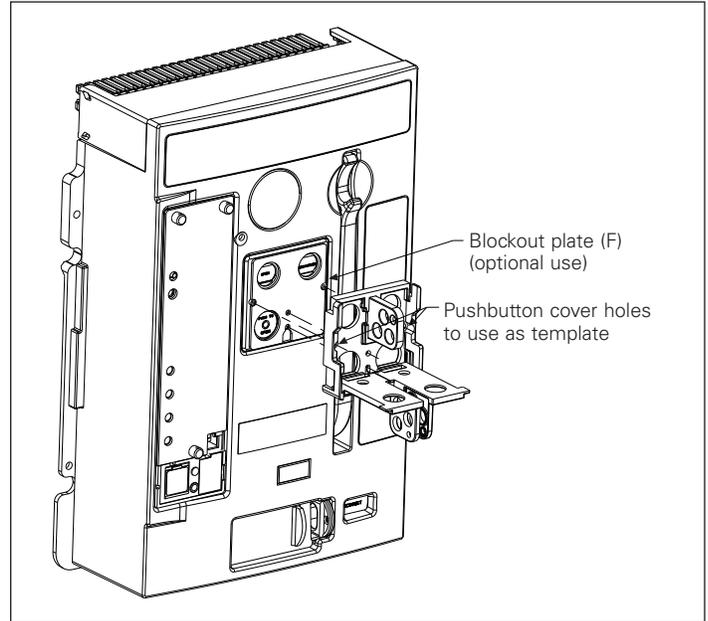

Figure 6. Step 4
Insert the two mounting screws (D) through the indicated holes in the pushbutton cover and into the two pilot holes indicated in the faceplate. Torque both mounting screws to 8 ozf-in (0.06 N·m). Refer to **Figure 6** for reference purposes. Once this step is completed, skip to **Step 9**.